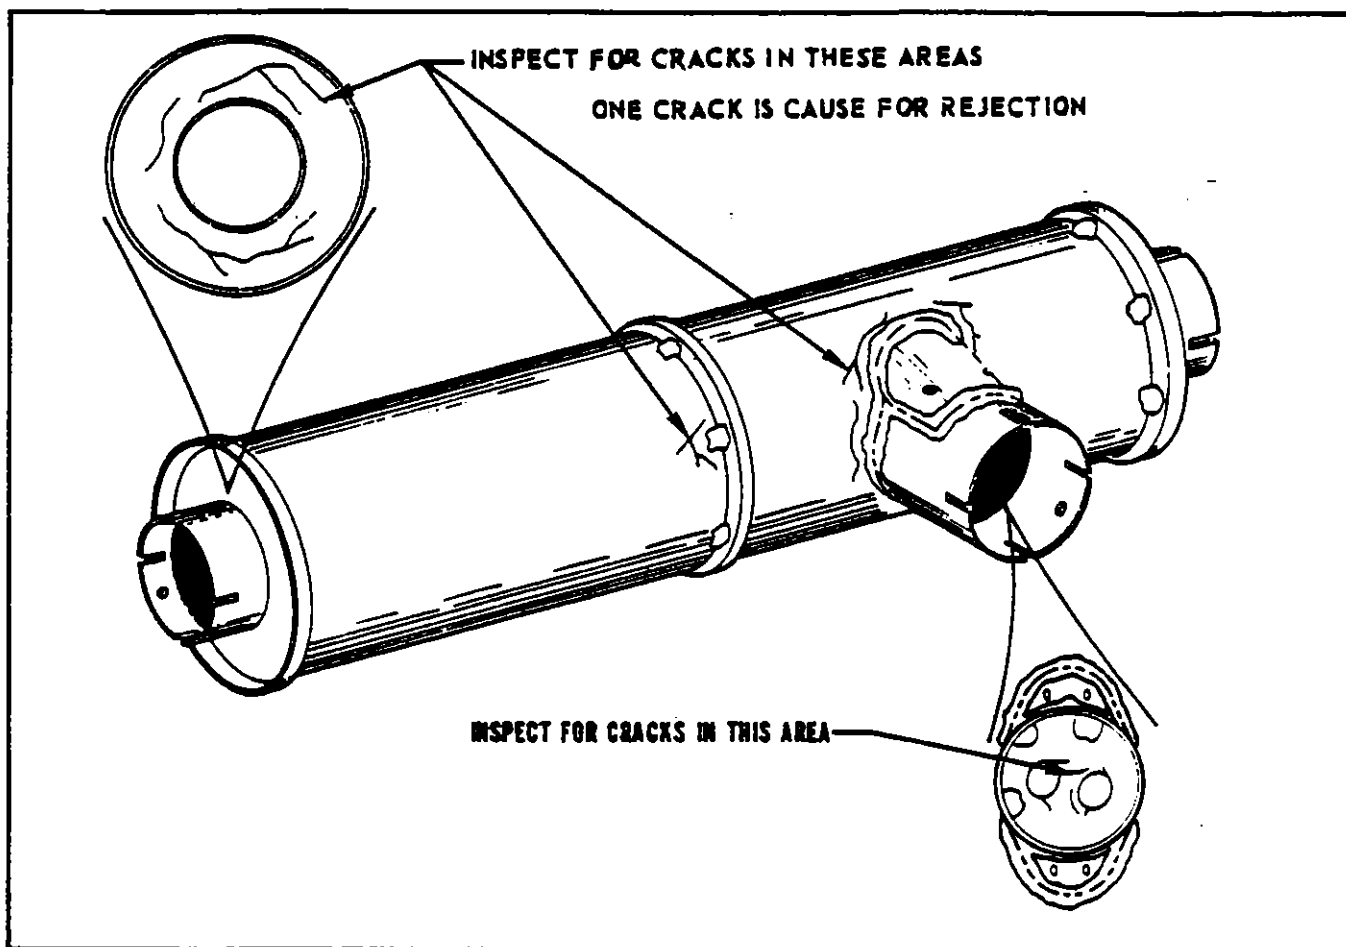

FIGURE 3-1. TYPICAL MUFFLER FATIGUE AREAS
**3-8 Inspection of Exhaust System.** (Refer to Figures 3-1 thru 3-3) Inspection of the entire exhaust system, including heat exchange shroud, muffler, muffler baffles, stacks and all exhaust connections must be rigidly inspected at each 100 hour inspection. The possibility of exhaust system failure increases with use. It is recommended that the system be checked more carefully as the number of hours increase, therefore inspection at the 700 hour period, that the exhaust system has been in use, would be more critical than one in the 100 hour period. The system should be checked carefully before winter operation when the cabin heat will be in use